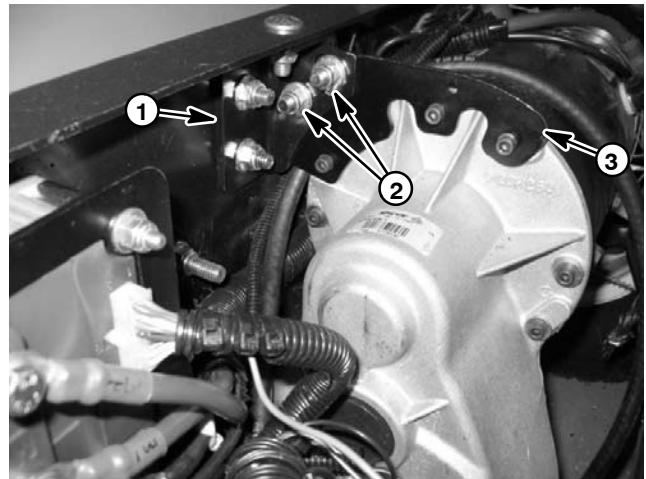

Figure 16
9. Loosen and remove two (2) flange nuts and carriage screws that secure transaxle mount plate (item 5) to support bracket (item 4) (Fig. 16).
10. Remove four (4) flange head screws and flange nuts securing the transaxle to the rear frame.